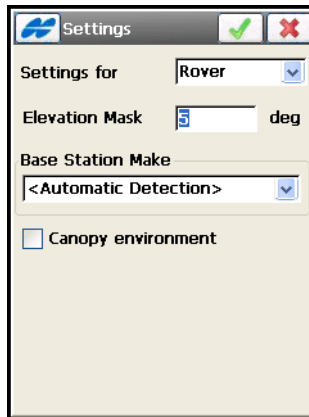

Figure 8-14. Elevation Mask
- The settings  icon – opens the *Settings* screen (Figure 8-14).
The *Settings* screen (Figure 8-14) generally sets the value for the minimum threshold of elevation mask; data from satellites below this elevation angle are not used. Other settings depend on the current style selected in the job configuration.